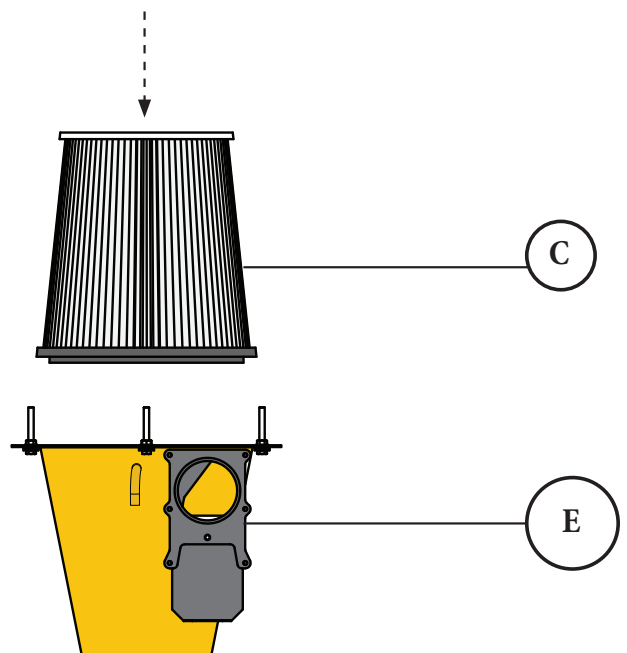

FIG. 8
Place the Filter (C) on top of the Cyclone (E) with the open side facing down [FIG. 8].